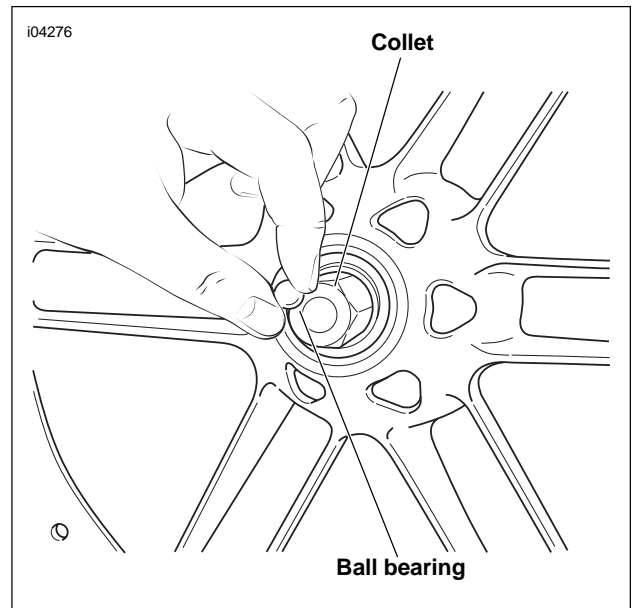

Figure 2-7. Install Collet and Ball Bearing
3. Assemble the short forcing screw (1), nut (2), Nice bearing (3), washer (4) and bridge (5) from the WHEEL BEARING INSTALLER/REMOVER (Part No. HD-44060).
4. See Figure 2-7. Insert the FRONT WHEEL BEARING REMOVER COLLET (Part No. B-43993-7, from kit Part No. B-43993-50) into the wheel bearing until it fully seats against the bearing.